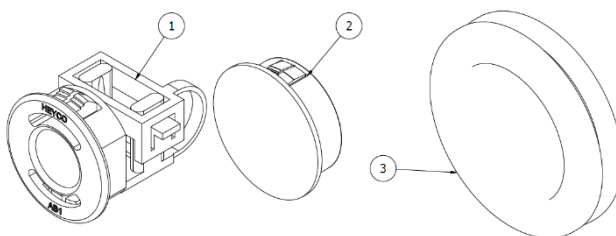

Figure 9: Cable and Pipe / Tube interfaces
- Move the cable strain relief fittings to the side you wish to make the entries/exits. Cover all other holes in the enclosure with the supplied blanking bushes (See Figure 2 & Figure 9).
Table 8: Reference Figure 9: Cable and Pipe / Tube interfaces